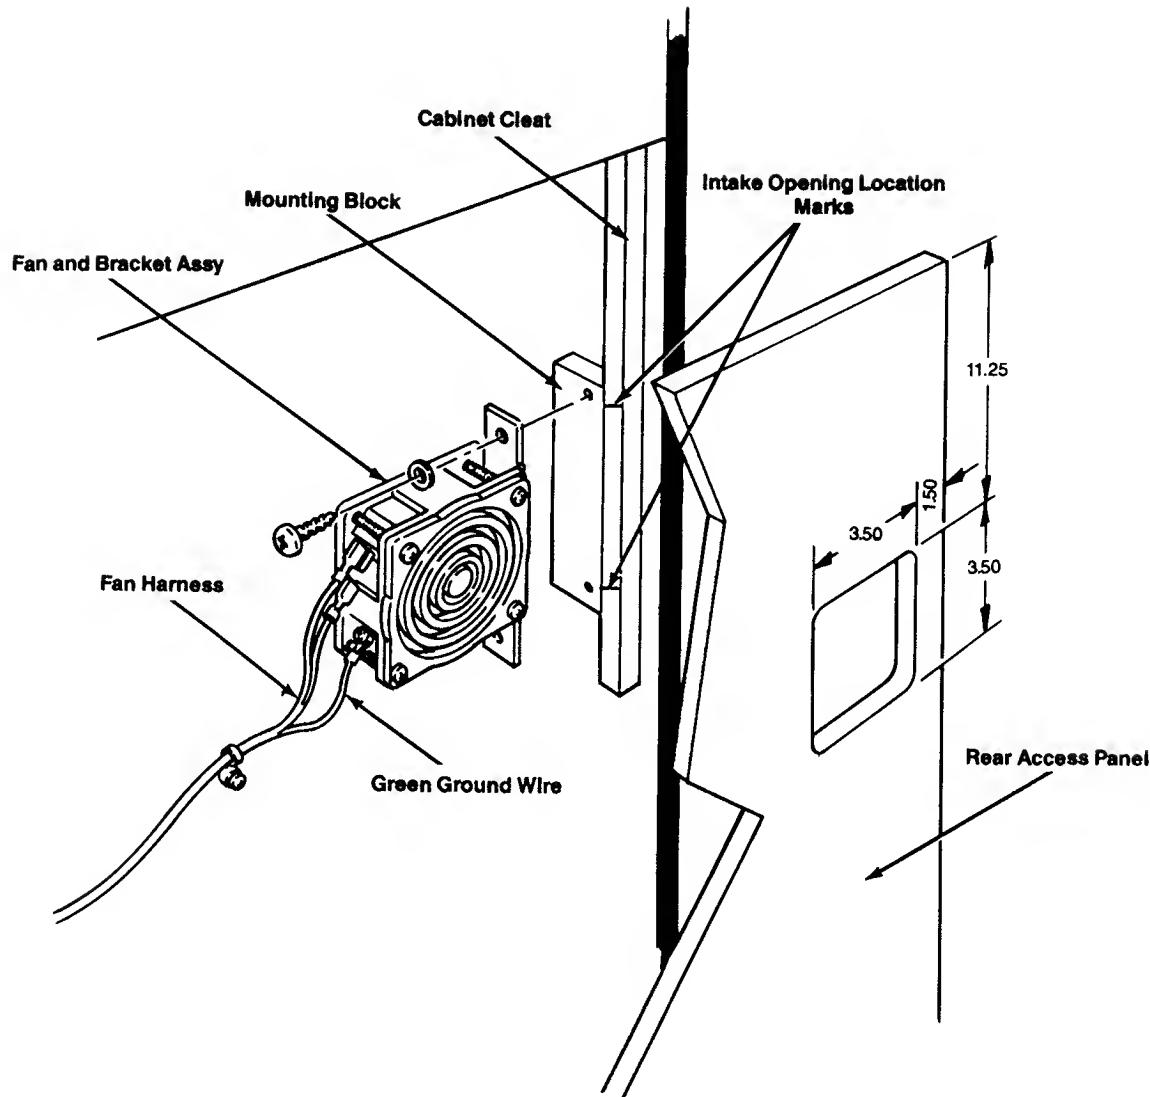

Figure 10 Modifying the Rear Access Panel and Installing the Fan
Perform the following procedure to modify the rear access panel to provide a fan intake opening (see Figure 10).
1. ✓ Measure and mark the rear access panel for the fan intake opening as shown in Figure 10.
Perform the following procedure to install the fan in the game cabinet (see Figure 10).